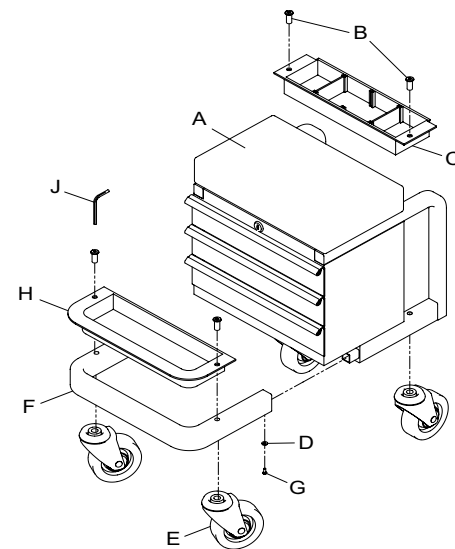

Figure 1 - Assembly
Before beginning assembly of product, make sure all parts are present. Compare parts with package contents list and Figure 1 illustration. If any part is missing or damaged, do not attempt to assemble, install or operate the product. Contact customer service for replacement parts.
ASSEMBLY INSTRUCTIONS (ref. Figure 1)
1. Join frame sections by inserting front frame section (F) into channel sections of tool box subassembly (A). Line up screw holes and thread screws (G) fitted with washers (D) into corresponding holes in channel sections. Do not tighten screws yet.
2. Assemble a caster (E) and a tool tray (C or H) simultaneously. Position a caster stud into lower frame hole as seen in Figure 1. Place tool tray into position by aligning the lower frame thru-hole with corresponding hole in tool tray. Insert caster fastener into the swivel caster stud.
OPERATING INSTRUCTIONS (Refer to Fig. 1)